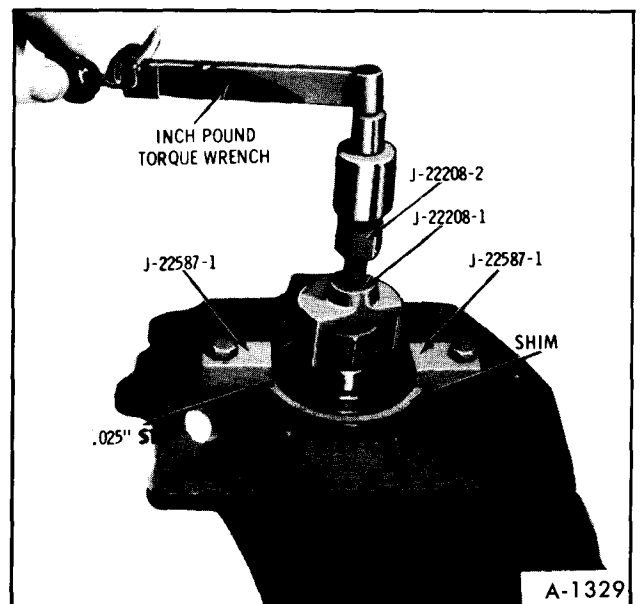

Figure 41—Checking Shim Thickness for Pinion Bearing
2. Position pinion bearing race on pinion bearing and install Tool J-22587-1 as shown in Figure 41. Using a feeler gauge check thickness between bearing race and Tool J-22587-1. Loosen bolts holding Tool